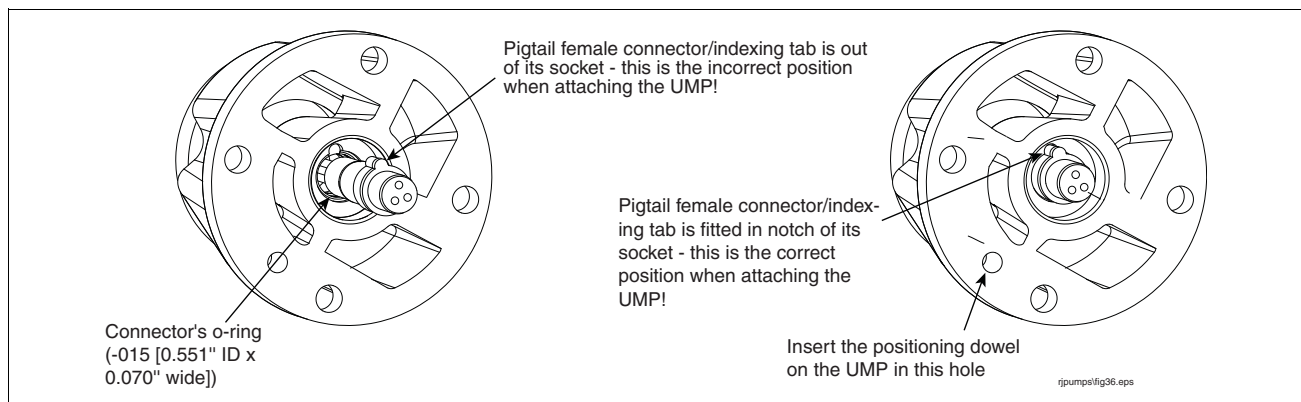

Figure 24. Verifying pigtail's female connector is seated properly
6. Pull the pigtail connector in the discharge head out far enough to see the o-ring in the sidewall of its socket (see Figure 24). Remove the connector's o-ring from the connector's socket and discard it. Get a 0.551" ID x 0.070" wide o-ring from the kit and lubricate it with petroleum jelly. Slide the new o-ring over the pigtail connector and push it in the groove in the wall of the connector's socket. Lubricate the pigtail connector body with petroleum jelly and push it back into its socket, making sure its index tab is in the socket's notch.
7. Align the UMP positioning dowel so it inserts in the proper hole in the discharge head (see Figure 24) and push the UMP into position using hand force only. The UMP should be snug against the discharge head prior to installing the UMP retaining bolts.
10. Push the pigtail wires into the connector's socket until they exit into the packer's wiring compartment. At the discharge (connector) end of the pigtail, rub some petroleum jelly over the connector's outside surface and push it into its socket in the discharge head. Take care to align the connector index tab with the notch in the socket as shown in the drawing on the right in Figure 24 on page 24.
11. Align the UMP positioning dowel so it inserts in the proper hole in the discharge head (see Figure 24) and push the UMP into position using hand force only. The UMP should be snug against the discharge head prior to installing the UMP retaining bolts.